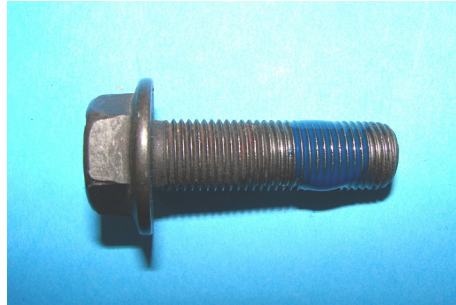

Figure 28. Liquid Loctite® 2440 Adhesive Applied to the Clean Threads for Reinstallation
5. Apply a patch of liquid Loctite® 2440 adhesive on bolt in the area of engaged threads indicated in Figure 28. Apply sufficient Loctite® 2440 adhesive to fill all engaged threads. The adhesive develops usable strength within one hour.